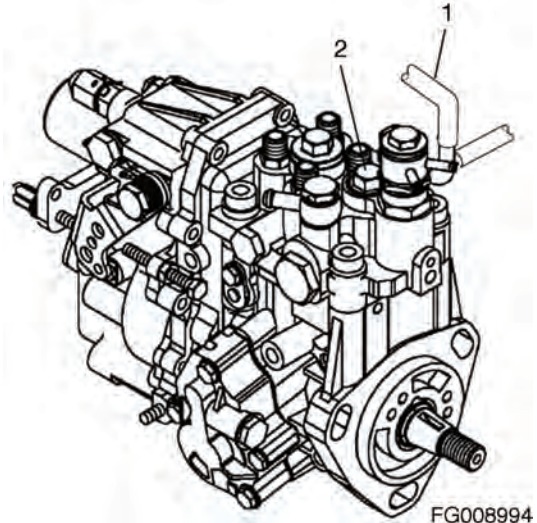

Figure 275
2. Clamp shut the fuel injection pump fuel return hose leading to fuel filter (1, Figure 275).
3. Remove the forward fuel injection pump plunger plug (2, Figure 275) on the top of the fuel injection pump.